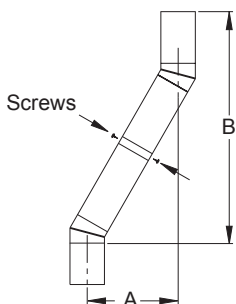

Figure 9 - Elbow Offset
Continue to assemble chimney sections as outlined, making sure that both the inner and outer pipe sections are locked together. When installing double wall snap-lock chimney together, it is important to assure the joint between the chimney sections is locked. Check by pulling chimney upward after locking. The chimney will not come apart if properly locked. It is not necessary to add screws to keep chimney together (exception - see Figure 9, page 8).
4. All pipe connections between the offset and return must be secured with two screws on the outer pipe only (see Figure 9, page 8). Do not penetrate the inner stainless.